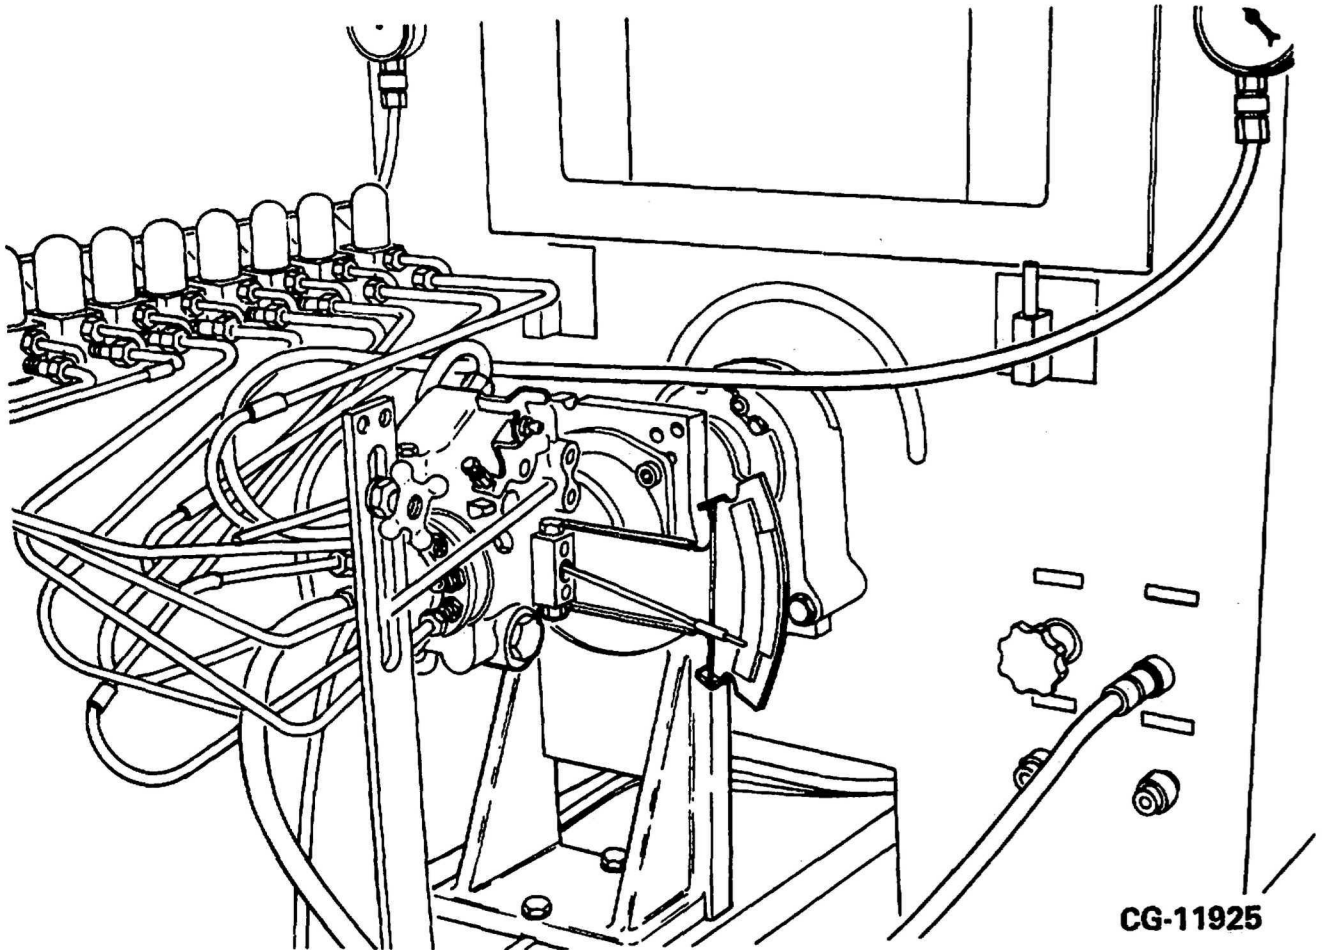

Figure 5.1. Pump Mounted on Calibration Stand (Flow Bench)
1. After an injection pump has been repaired or rebuilt, or if for any reason calibration of an injection pump is in question, the pump should be tested for all the requirements for proper performance. This is done by operating the pump on a calibration stand (Figure 5.1).